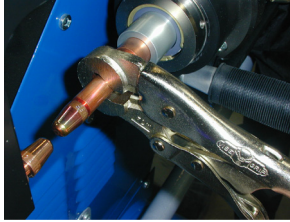

Figure 5.6a: Removing Piston Electrode
1. Grip piston electrode with a set of pliers or vise-grips (*fig. 5.6a*).
Note: Vise-Grips shown in *fig. 5.6a* are specially designed to hold round objects without damaging or scarring them. You can purchase a set from your local distributor or online at: www.prospot.com